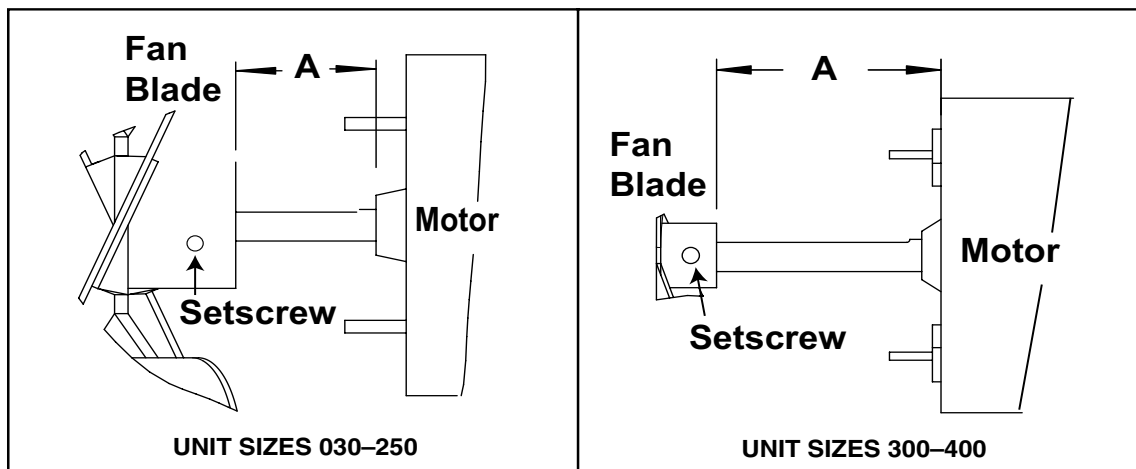

Figure 18. Fan Blade Positioning and Spacing
6. Ensure that fan blade is in proper position on shaft (see Figure 18) and that blades are properly spaced (refer to Table 24).
| *See Figure 18. | | | | | |
*See Figure 18.